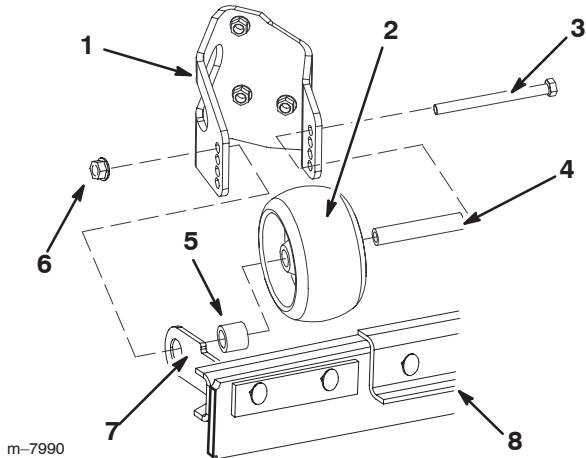

Figure 5
2. Remove the anti-scalp roller wheel, axle bolt, hub, wheel spacer, and flange nut (Fig. 5) from the wheel bracket.
4. Assemble the anti-scalp roller wheel and striping assembly as shown in Figure 5.
5. Secure the anti-scalp roller wheel and striping assembly with the axle bolt and flange nut removed previously (Fig. 5).